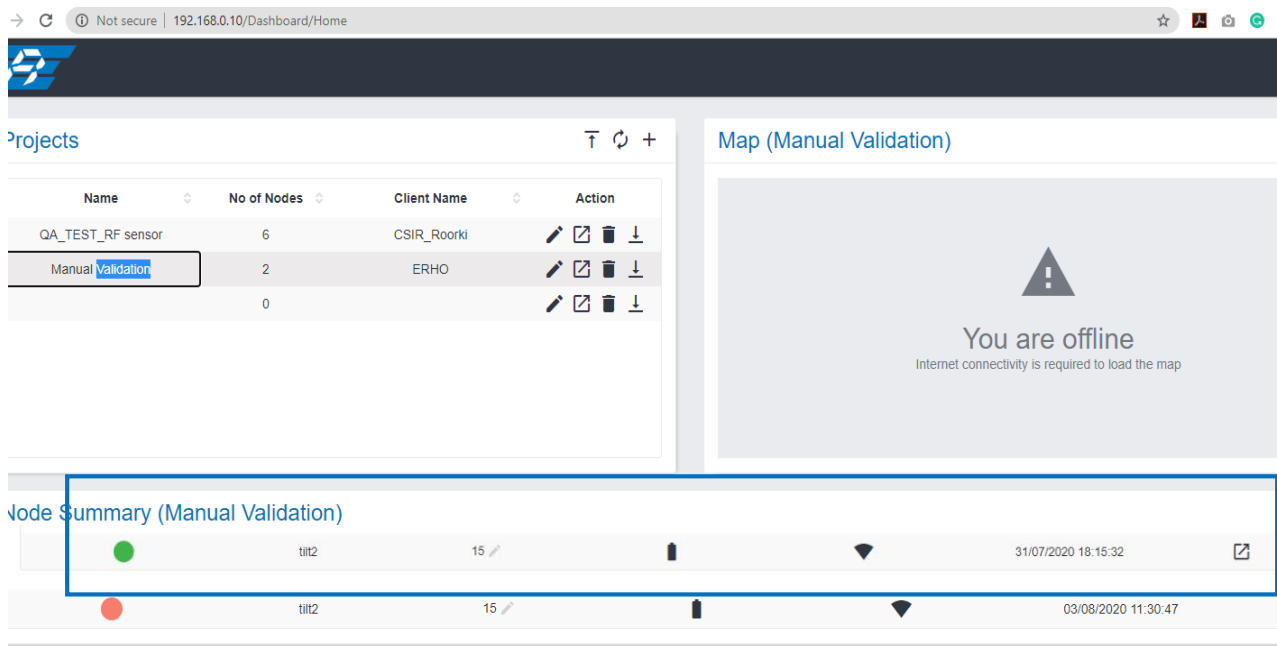

Figure 3-23
9. Double click on the selected 'Project name'. It will show the Node Summary like Node Status, Node name, Sampling Rate, Battery Status, RSSI, Last Updated. (Refer to figure 3-23)